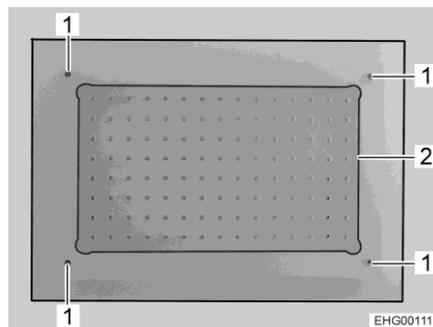

Fig. 312 Ceiling lamp
- Unscrew 4 screws (Fig. 312,1).
- Remove glass plate (Fig. 312,2) with firmly mounted LEDs.
- Position new glass plate including LEDs and screw in the 4 screws (Fig. 312,1).